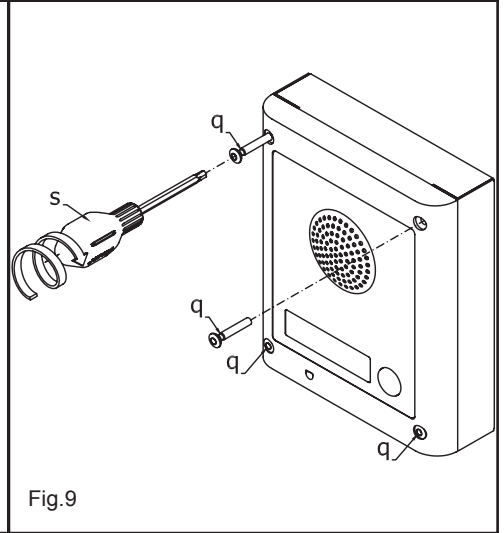

Fig.9
8. When the system has been tested and is working correctly, move back the module support frame carefully, fix it to the surface box using the provided screwdriver s (blade torx side) and the pin machine torx screws q as shown in figure 9. Note: do not over tighten the screws more than is necessary.